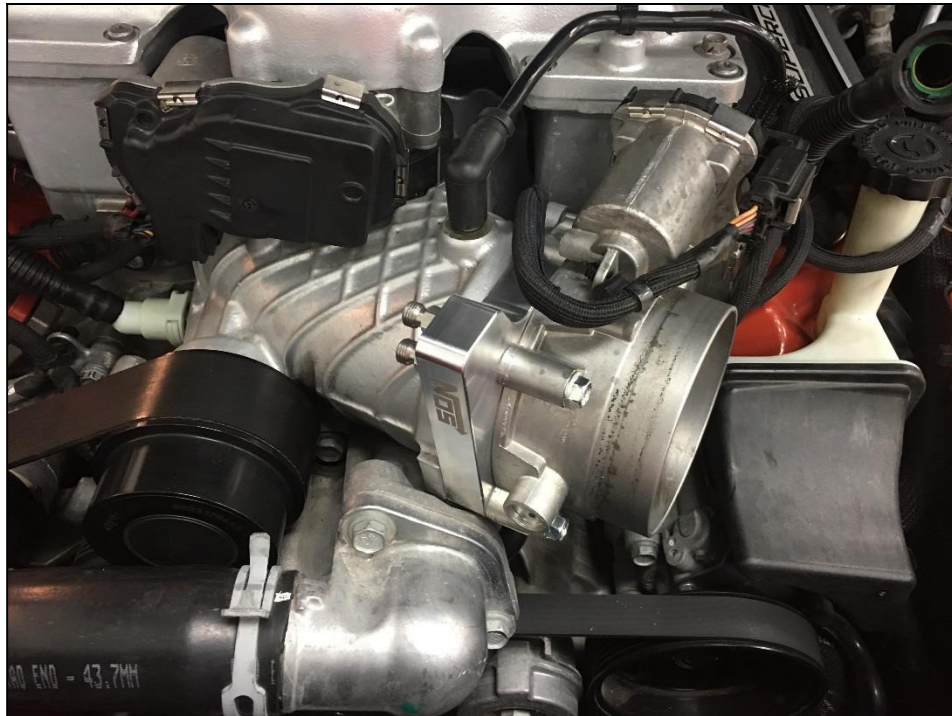

Figure 8 – Nitrous Plate Installation
6. Install the nitrous plate assembly onto the intake manifold using the new, longer throttle body bolts as shown in **Figure 8** and torque to 106 in. lbs. (~8.8 ft. lbs).